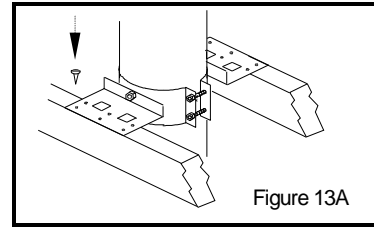

Figure 13A
- 1 Install the insulated offset elbow on the vertical chimney length. Turn it in the required direction and fasten it to the chimney with the (4)-1/2" metal screws provided.
- 3 Use another elbow to turn the chimney vertically. Again secure the elbow to the chimney length using the (4)-1/2" metal screws.
- 4 Install the remaining chimney as described in the instructions for the roof support (fig. 13A, page 8).
- 2 Slip the support down over the stainless steel chimney until its brackets rest on the roof or floor. Tighten the collar around the chimney, then secure it by screwing the four ½" metal screws (supplied) through the holes located on each side of the collar bolts and into the chimney (fig.13a).
- 3 Center the chimney and nail or screw the support to the roof or floor using (8) - 2 1/2" nails or (8) N#8 - 1 1/4" wood screws. (Fig. 13a)
- 5 **U.S ONLY** - Install the roof radiation shields in the roof joists. These shields consist of four metal plates. Nail one plate to each side of the joist using (2) 2½" nails.